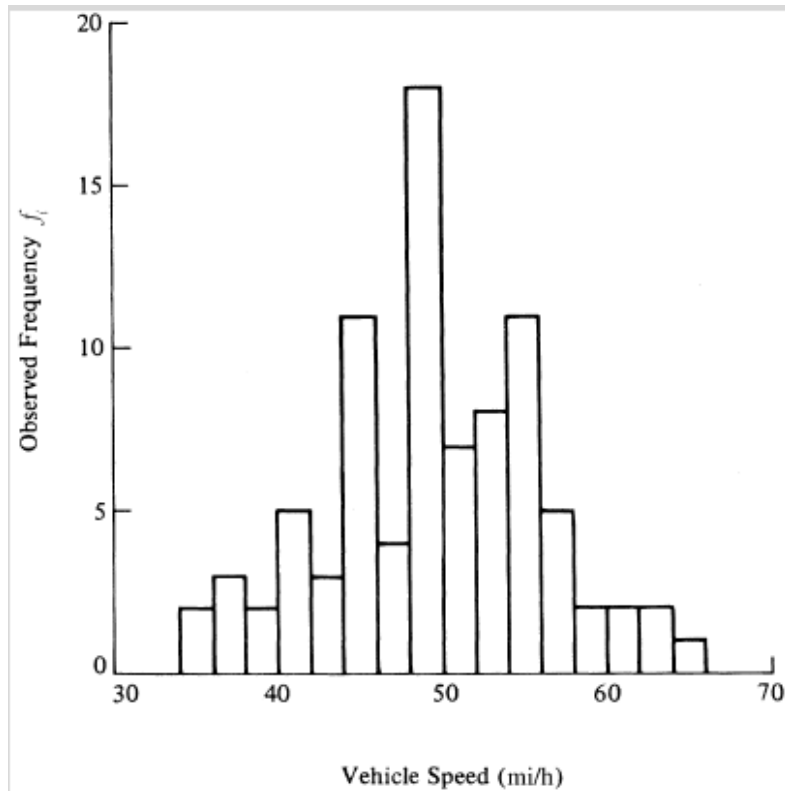
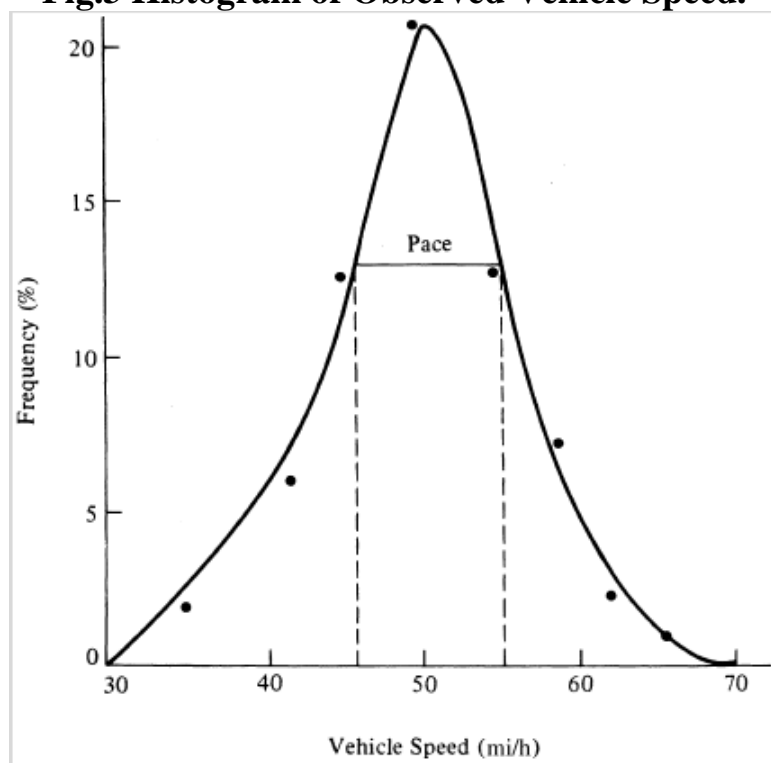

Fig.3 Histogram of Observed Vehicle Speed.
Fig.4 Frequency Distribution.
Fig.3 shows the frequency histogram for the data shown in Table (3). The values in columns 2 and 3 of Table (3) are used to draw the frequency histogram, where the abscissa represents the speeds and the ordinate the observed frequency in each class.
Fig.4 shows the frequency distribution curve for the data given. In this case, a curve showing percentage of observations against speed is drawn by plotting values from column 5 of Table (3) against the corresponding values in column 2. The total area under this curve is one or 100 percent.
- The pace is obtained from the frequency distribution curve (Fig. 4) as 45 to 55 mph.
- The mode or modal speed is obtained from the frequency histogram as 49 mph (Fig. 3). It also may be obtained from the frequency distribution curve shown in Fig. 4, where the speed corresponding to the highest point on the curve is taken as an estimate of the modal speed.